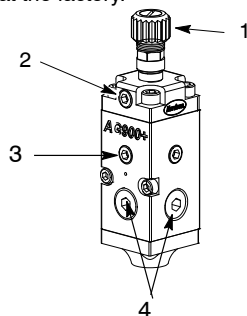

Figure 6: AG900+/AG900+S Module
1. See Figure 6. Rotate the knurled needle adjustment knob (1) clockwise until it stops.